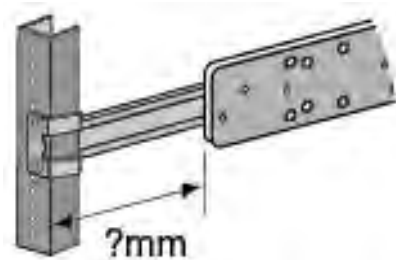

Figure 78. Measuring for the Extension Brackets
3. Measure the distance from the front of the equipment rack to the front of the inner rail. This will be the approximate length of the extension brackets. Refer to Figure 78.